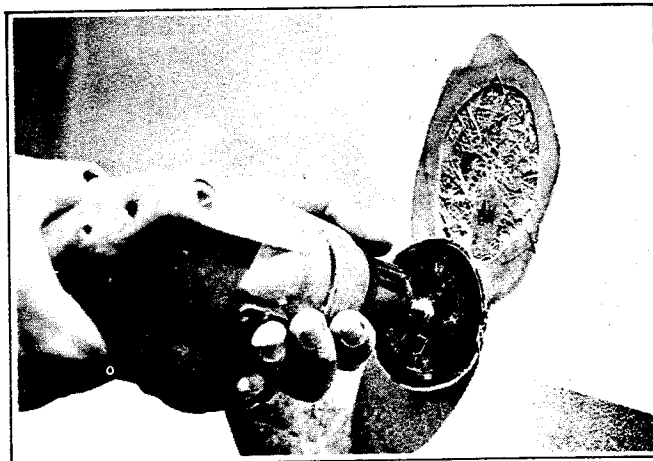

Figure 2-77. Rough Sanding Outside Surface
8. After the patch is cured, remove the cardboard from the outside of the hole and rough sand outside surface, feathering the edge of the hole. See Figure 2-77.